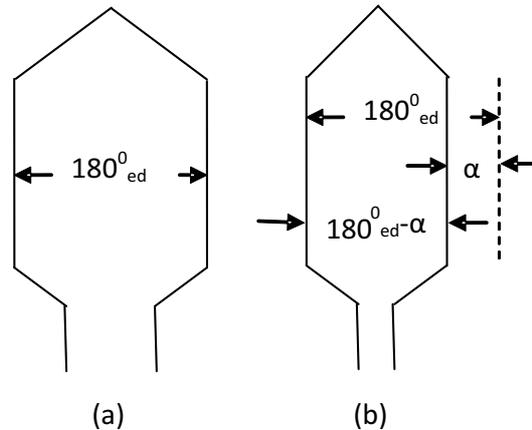

Fig.3.3 - Full Pitch and Short Pitch coils
**Full pitch coil :** A coil having a coil span equal to  $180^{\circ}_{\text{ed}}$  is called a full pitch coil, as shown in Fig. 3.3 (a).
**Short pitch coil :** A coil having a coil span less than  $180^{\circ}_{\text{ed}}$  by an angle  $\hat{\alpha}$ , is called a short pitch coil, or fractional pitch coil, as shown in Fig. 3.3 (b). It is also called a chorded coil.
**Pitch Factor or coil span factor or chording factor,  $K_p$  :** When the two sides of the same coil are short pitched by an angle  $\hat{\alpha}$ , as shown in Fig. 3.3 (b), the emf induced in the two coil sides have a phase angle difference of  $\hat{\alpha}$ . Due to phase angle difference, the actual emf is reduced by a factor  $\cos \frac{\alpha}{2}$  and is called pitch factor or coil span factor or chording factor.
**Solution:** From Fig. 3.3 (b), short pitch angle,  $\hat{\alpha} = 180^\circ - 140^\circ = 40^\circ$ . From equation 3.9,  $K_p = \cos \left( \frac{\alpha}{2} \right) = \cos \left( \frac{40}{2} \right) = 0.94$